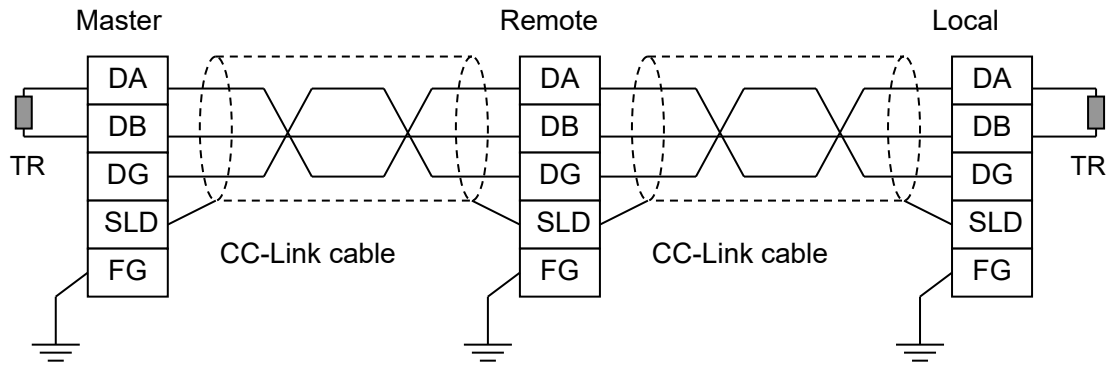

Fig. 4.5 Connection of terminal resistor
- Refer to Fig. 4.5 on the previous page for how to connect ground.